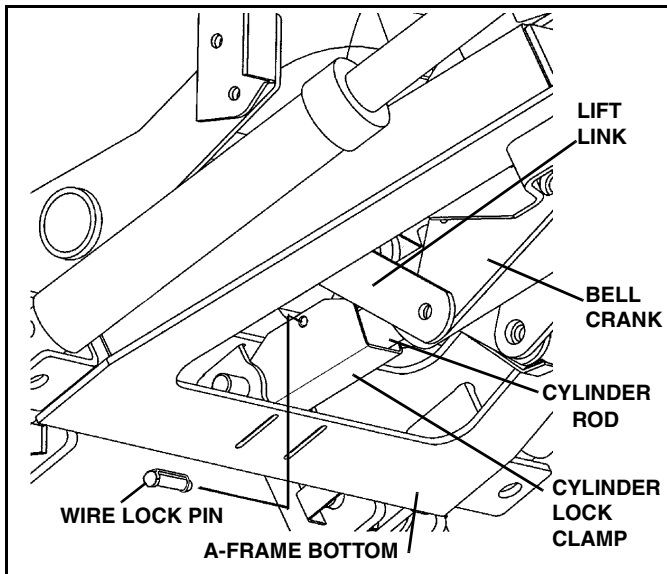

Figure 1-17
5. Position the cylinder lock clamp around the exposed (chrome) portion of the lift cylinder with the open side of the cylinder lock up. Install the pin. (See Figure 1-17).